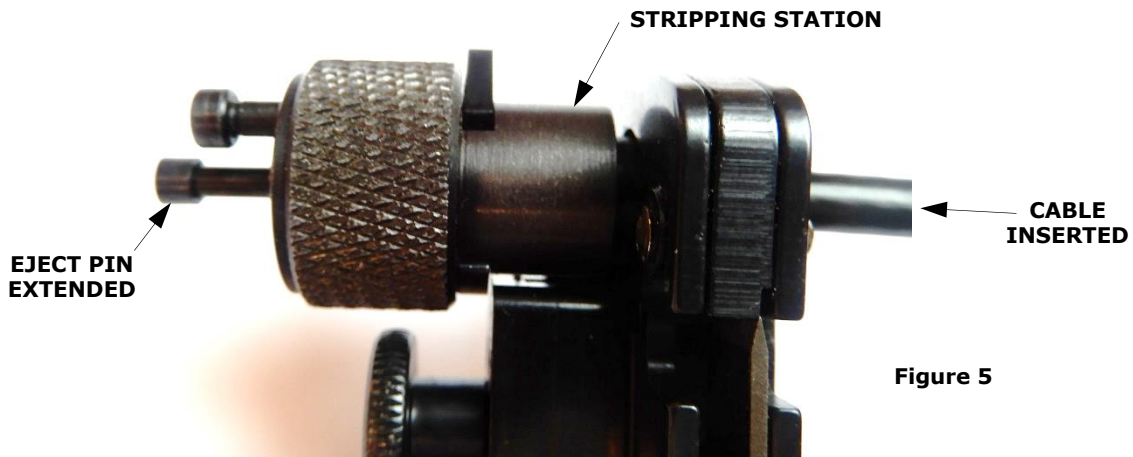

Figure 5
- 1.2 Insert the RG58 cable into the stripping station until it stops. The cable is fully inserted when the eject pin is fully extended. See Figure 5.